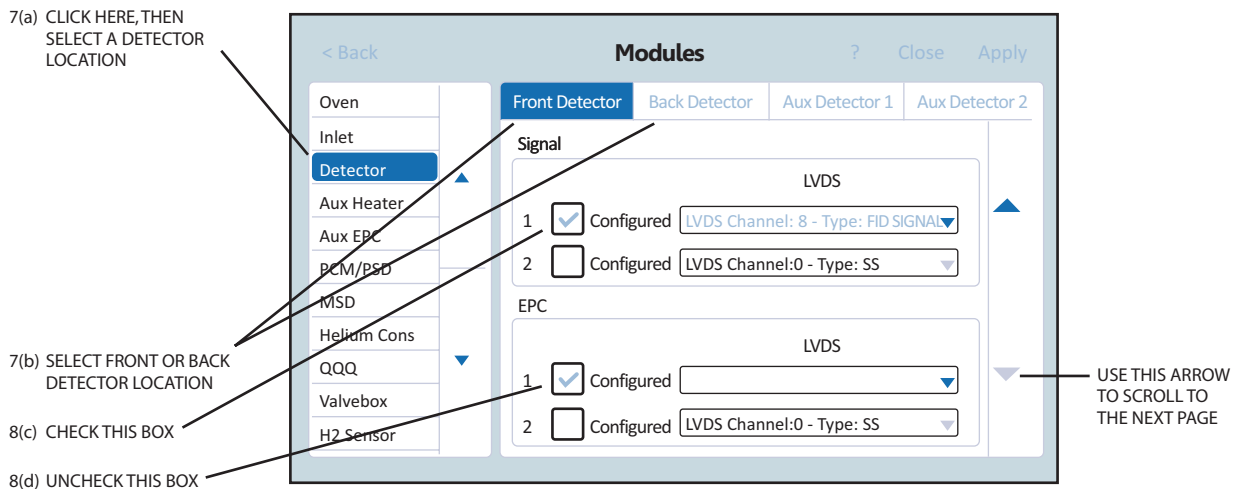

Figure 6: Module Configuration screen
6. Click “Settings” to open the screen in **Figure 6**.